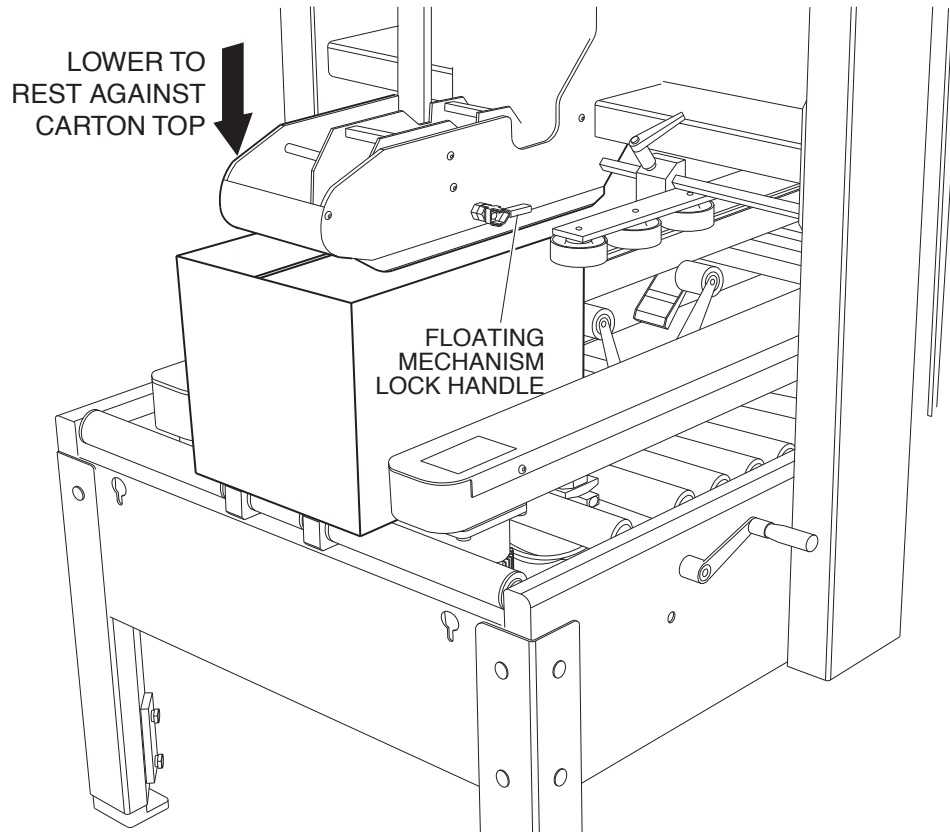

Figure 11
- 4. Set a carton on the machine, as shown in figure 11. Make sure orientation of box is correct.**
- 5. If you plan on over-filling the cartons, unlock the floating mechanism on the tape head as shown in figure 11. Otherwise, make sure floating mechanism is locked.**